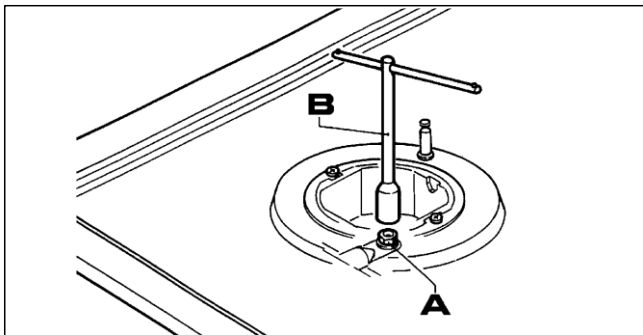

Fig. 7
- The burners can be adapted to suit different types of gas by fitting the nozzles that correspond to the gas used. To do this, it is necessary to remove the burner heads and use a straight key "B" to unscrew the nozzle "A" (see Fig. 7) and replace it with a nozzle corresponding to the gas used.